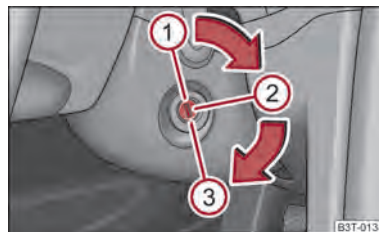

Fig. 115 Ignition lock positions
- The engine can be switched off by turning the ignition key from position ⇒ fig. 115 into position ①.